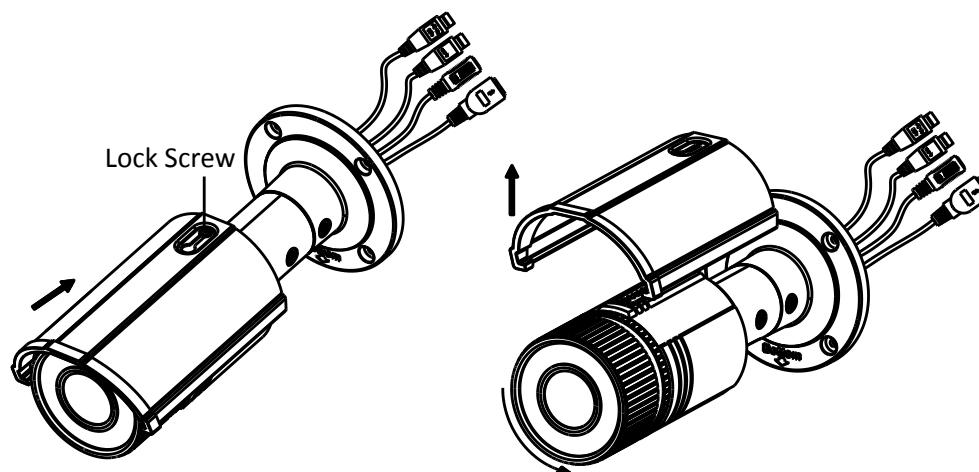

Figure 5-25 Disassemble the Camera
1. Loosen the lock screw on the sun shield to slide the sun shield according to the arrow direction as shown in Figure 5-25 (left).
2. Remove the sun shield according to the arrow direction as shown in Figure 5-25 (right).
3. Remove the front cover by rotating it counterclockwise as shown in Figure 5-25 (right).